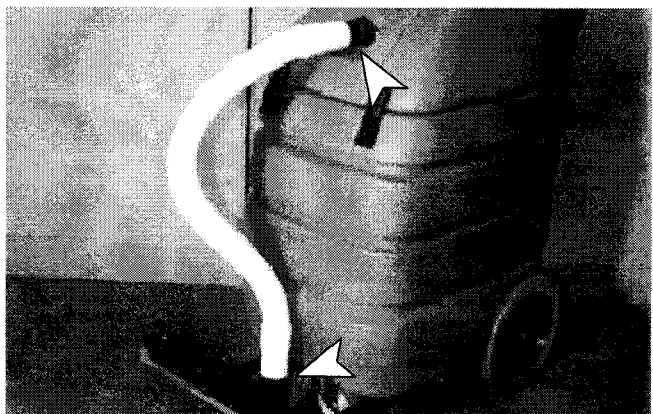

FIG. 6.
- Connect 33" (84cm) vacuum hose to squeegee assembly and on neck of machine lid. (Figure 6.)